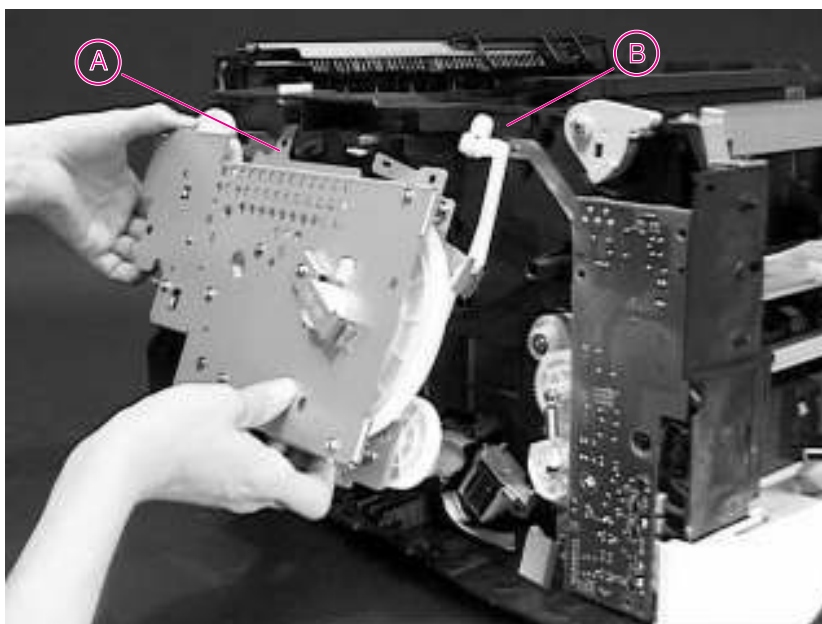

Figure 6-27 Removing the Main Gear Assembly
- 4 Rotate the bottom of the assembly out (Figure 6-27), and then lower it to release the Locating Tab (A) and remove the Main Gear Assembly.